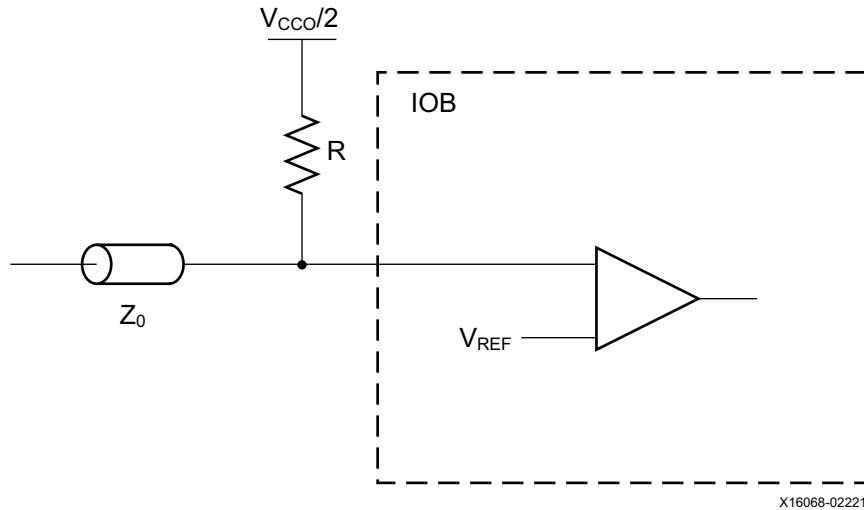

Figure 1-10: Input Termination to $V_{CC0}/2$ without DCI (where $R = Z_0$)
Some I/O standards (HSTL and SSTL) require an input termination resistance (R) to a V_{TT} voltage of $V_{CC0}/2$ (see Figure 1-10).